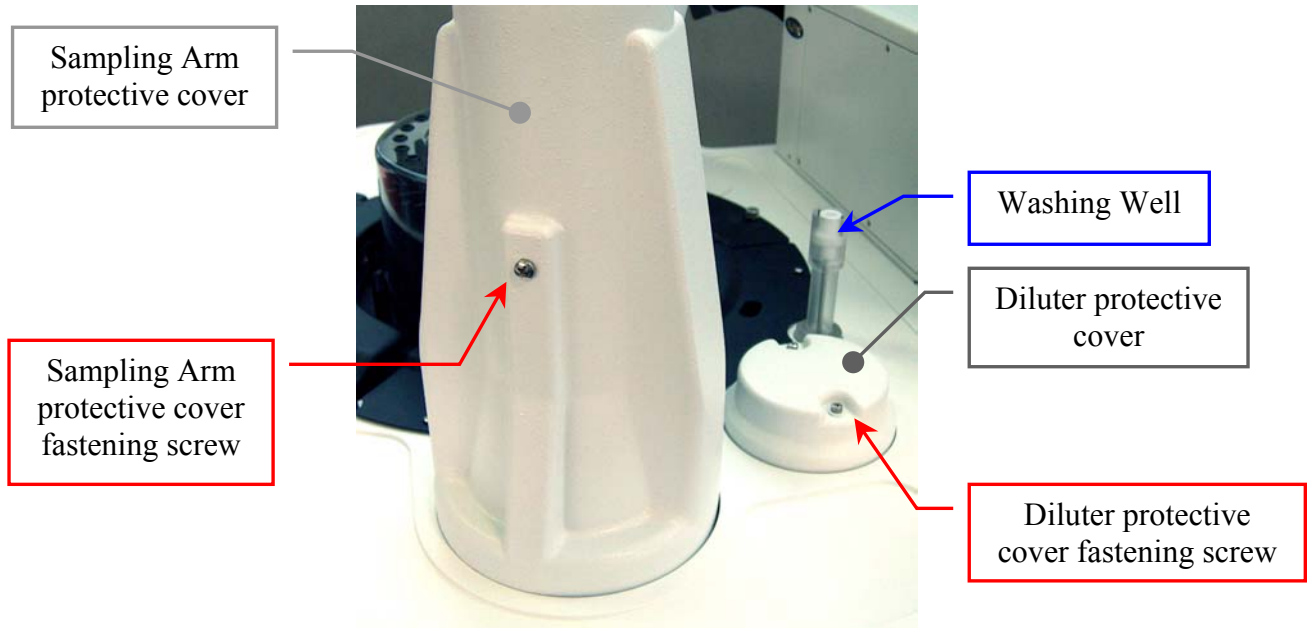
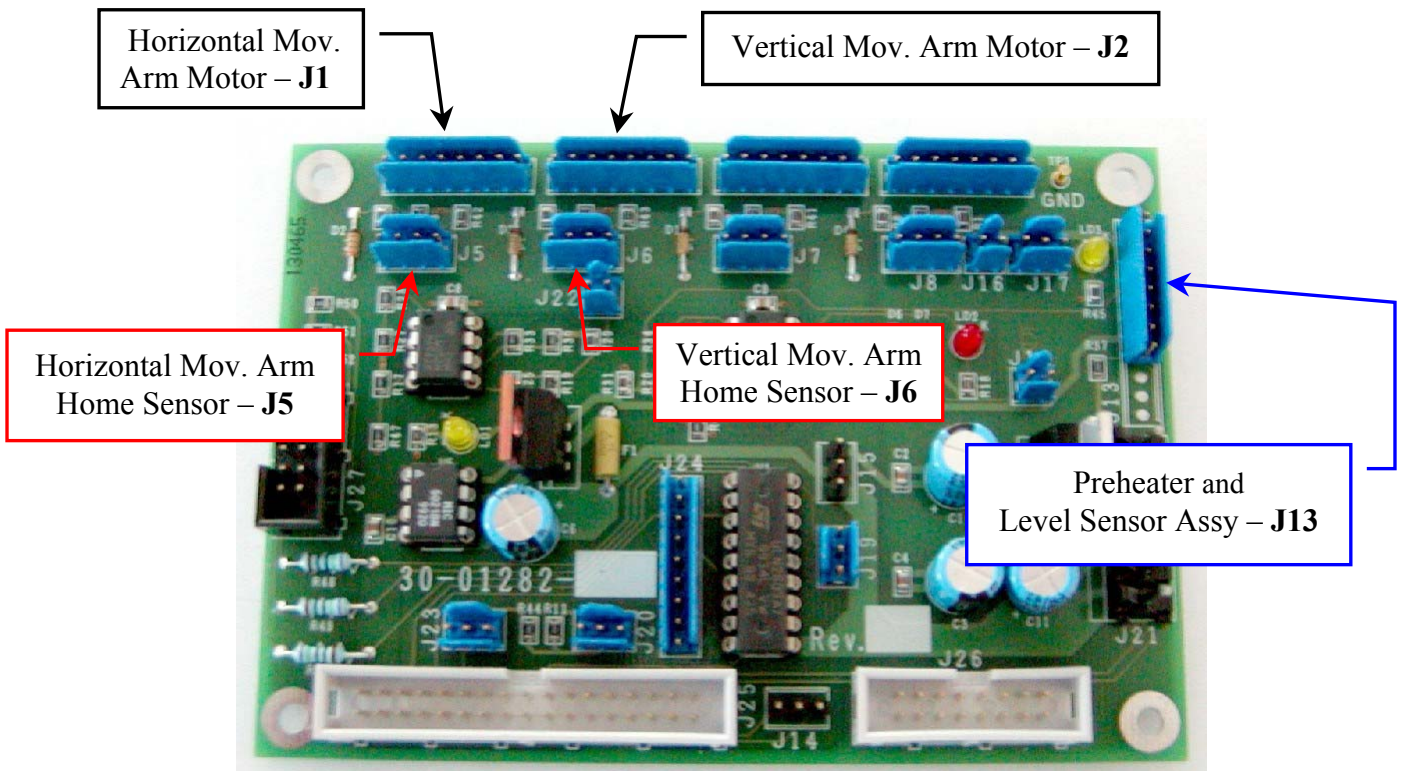

Fig.1 – Protective covers
Fig. 14 - Arm Interface Board (Dx) [P/N: 30-01282-01]
- a. remove the Sampling Arm protective cover unscrewing its fastening screw (Fig. 1);
26. Place the Sampling Arm protective cover screwing its fastening screw (Fig. 1).
4. Unplug the J1, J2, J5, J6, J13 connectors from the Arm Interface Board (Fig. 14), remove the Sampling Arm protective cover unscrewing its fastening screw (Fig. 1) and unplug the ground wire from the Sampling Arm Assembly.
5. Unscrew the two fastening screws and remove the Diluter protective cover (Fig. 1).
1. Remove the Sampling Arm protective cover unscrewing its fastening screw (Fig. 1).
4. Unplug the J5 connector from the Arm Interface Board (Fig. 14), take out the entire Arm Home Sensor Assy and substitute it with the new one (Fig. 19).
4. Unplug the J6 connector from the Arm Interface Board (Fig. 14), take out the entire Arm Home Sensor Assy and substitute it with the new one (Fig. 19).
4. Unplug the J1, J2, J5, J6, J13 connectors from the Arm Interface Board (Fig. 14) and the ground wire from the Sampling Arm Assembly (Fig. 18).
4. Unplug the J2 connector from the Arm Interface Board (Fig. 14).